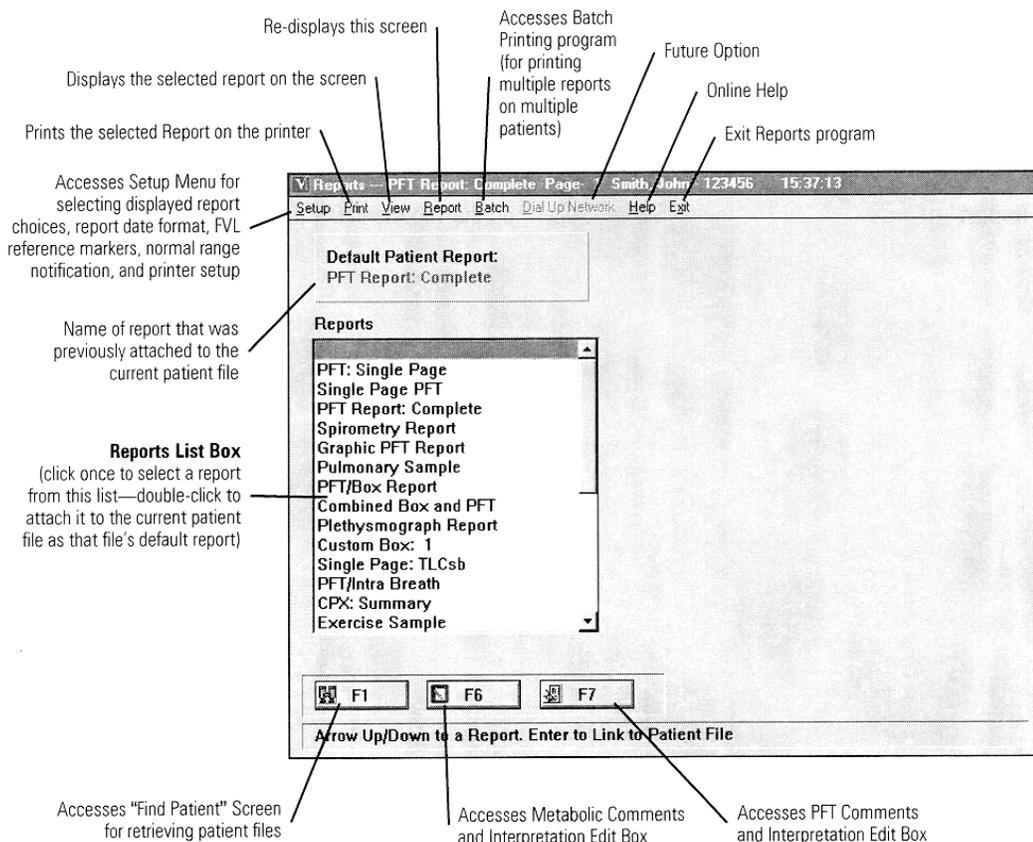

Figure 9-1 – Reports Screen
1. Select **B Reports** from the **Vmax Program Manager** to display the **Reports** screen (Figure 9-1).